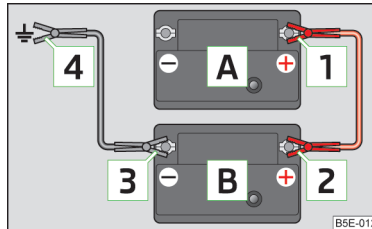

Fig. 153
- Attach clamp **1** to the positive terminal of the discharged battery **A** » Fig. 153.